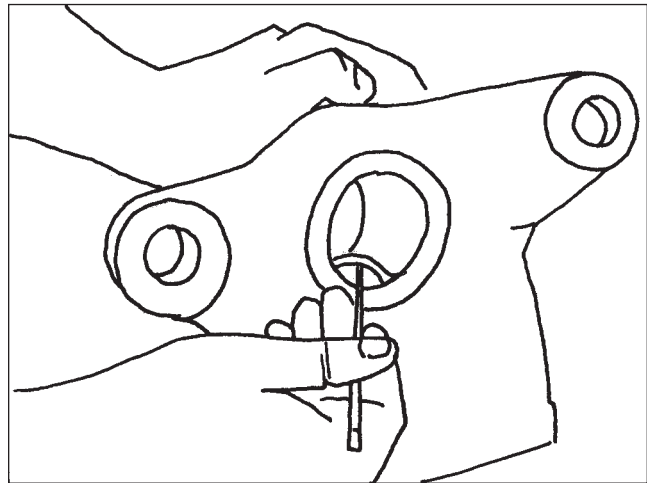

Figure 109
19. Remove and discard the sector shaft seal from the housing (Figure 109).